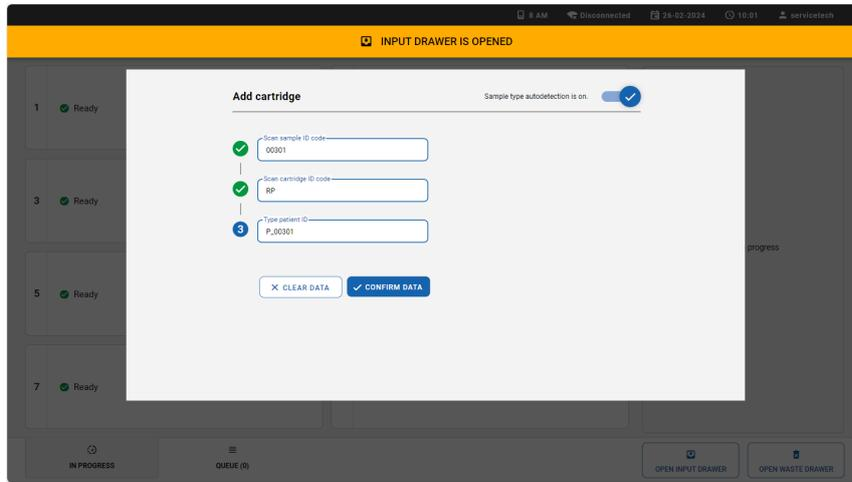

Figure 17. Type patient ID then confirm the data screen.
4. Enter the patient ID and push the **CONFIRM DATA** button (Figure 17).